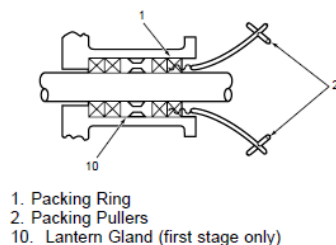

Figure 7.1 Removing Stuffing Box Packing
a-4. Insert the tips of packing pullers (2, Figure 7-1) into the packing (1).
a-9. Screw the tips of packing pullers (2, Figure 7-1) into the remaining packing in the stuffing box and pull the packing out.